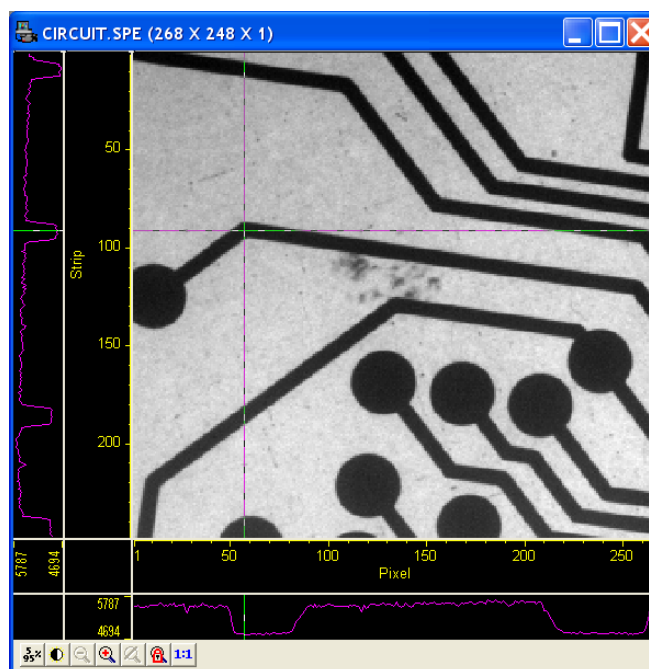

Figure 69. CIRCUIT.SPE with Axes and Cross-Sections
5. The display should now appear as shown in Figure 69. The axes will be labeled in image pixels and strips with respect to the array used to acquire the image. The vertical image intensity profile at the cursor position will be displayed to the left and the horizontal image intensity profile at the bottom. The minimum and maximum values for each profile are indicated. Note that you can use the mouse and drag the axes and profile boundaries to change the size of the profile display regions. To change the cursor location, simply click the mouse at the new spot. The cross-sectional graphs will change to reflect the profiles at the new location.